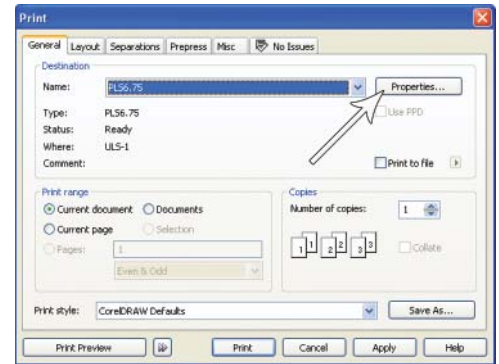

Figure 4
2. When you are ready to print the job, click FILE and then click PRINT. Make sure that your laser system appears in the DESTINATION NAME dropdown list, and then click PROPERTIES (Figure 4) to display the PLS system printer driver settings (Figure 5).
7. Now click on PRINT in the Print dialog window (Figure 4).